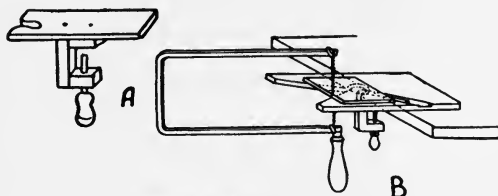

FIG. 10. A HAND SCROLL SAW TABLE
**A Few Other Helpful Things.**—A *Hand Saw-Table*.—You can saw out your designs much more easily and neatly if you use a hand saw table as shown in Fig. 10. This is a board about 4 x 6 inches on the